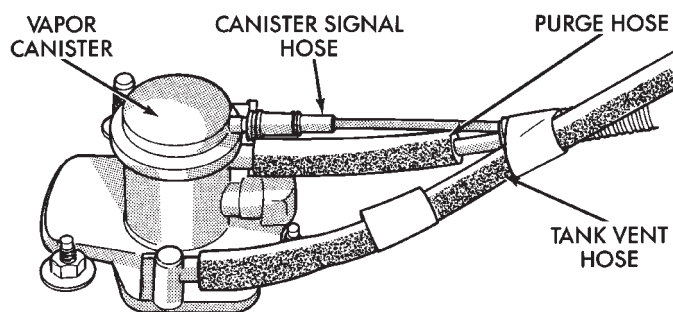

Fig. 5 Vapor Canister
(6) Verify hoses are securely attached to vapor canister (Fig. 5).
(7) Verify alternator wiring and belt are correctly installed and tighten.